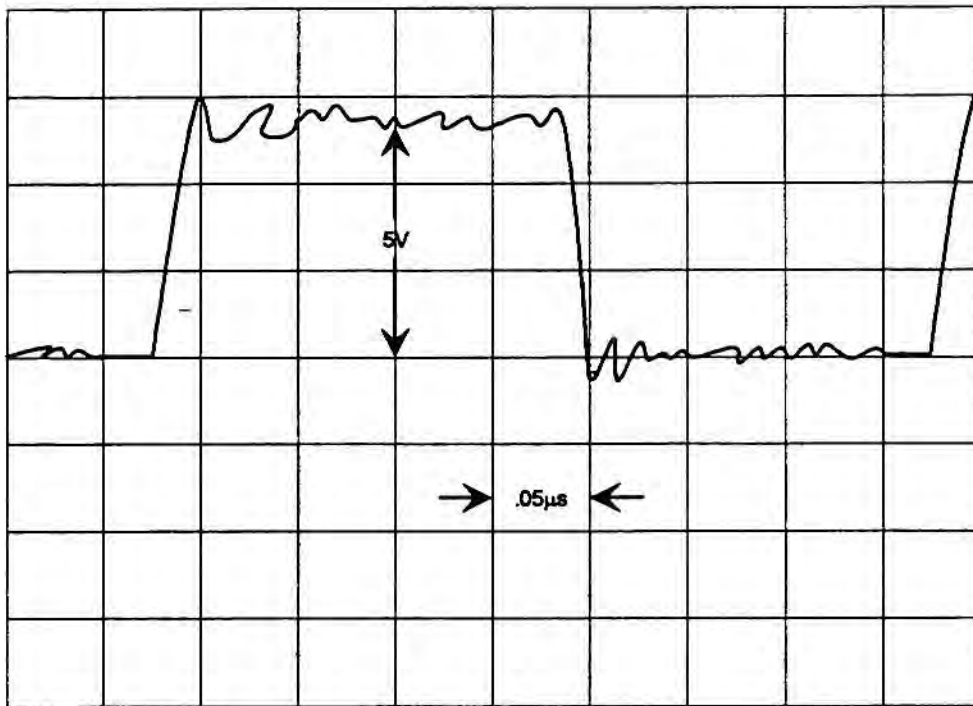

FIGURE 4-11. Signal Trace of Enable LCD Signal (ELCD)
1. If the LCD display does not show any characters and the LCD is known to be good, the fault probably lies in U27, the LCD Display Controller. Check the enable (ELCD) signal at TP1. Signal should be as shown in Figure 4-11. If signal is not correct, monitor the Address Select (AS*) line at TP4. This signal should appear as shown in Figure 4-11. Ensure this signal is inverted at U2D-8. If incorrect, replace U2. If U2D is functioning properly, troubleshoot/replace U3 and/or U7.